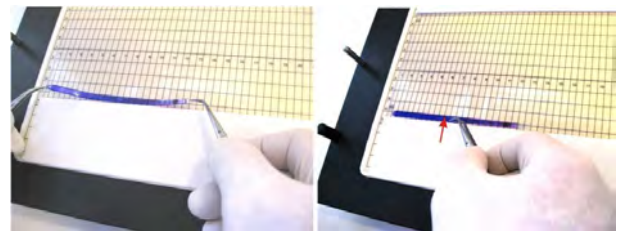

Fig. 6
9. Trim the film support of the IPG strips on both sides. Place the IPG strips gel-side down (!), anodal sides to the right, into the slots of the SDSGel and push them carefully towards the anode edges of the slots (fig. 6). Slide along the backing of the strips with the forceps to ensure good contact to the bottom of the slots.